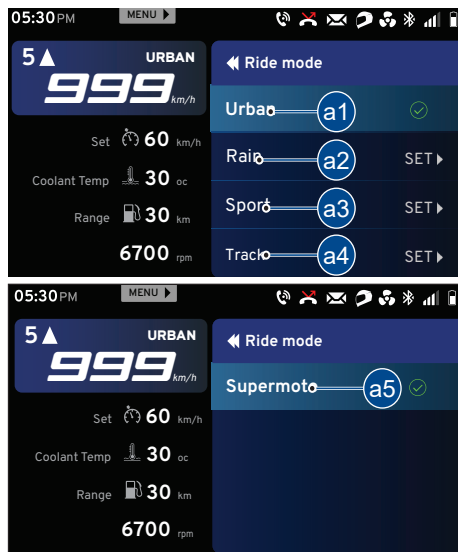

Fig. 24
- Keep the vehicle stationary and switch 'ON' the ignition. After the self-check of instrument cluster, press the 'ENT' (D1) button to enter menu function (ref Fig. 24).
- Keep the vehicle stationary and switch 'ON' the ignition. After the self-check of instrument cluster, press the 'ENT' (D1) button to enter menu function (ref. Fig. 24).